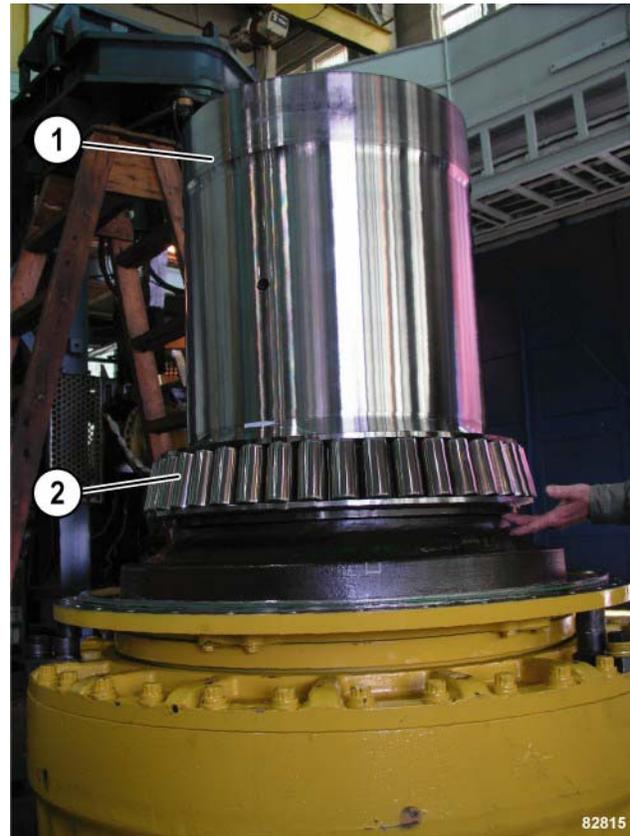

FIGURE 50-47.
NOTE: The inner and outer bearings are different sizes. If the bearings are to be re-used, ensure the bearings are installed from where they were removed. The inside diameter of inner bearing cone (2, Figure 50-47) is 2 mm (0.079 in.) larger in diameter than outer bearing cone (1, Figure 50-49).
6. Heat inner bearing (2, Figure 50-47) to $90 \pm 10^{\circ}\text{C}$ ($194 \pm 50^{\circ}\text{F}$).